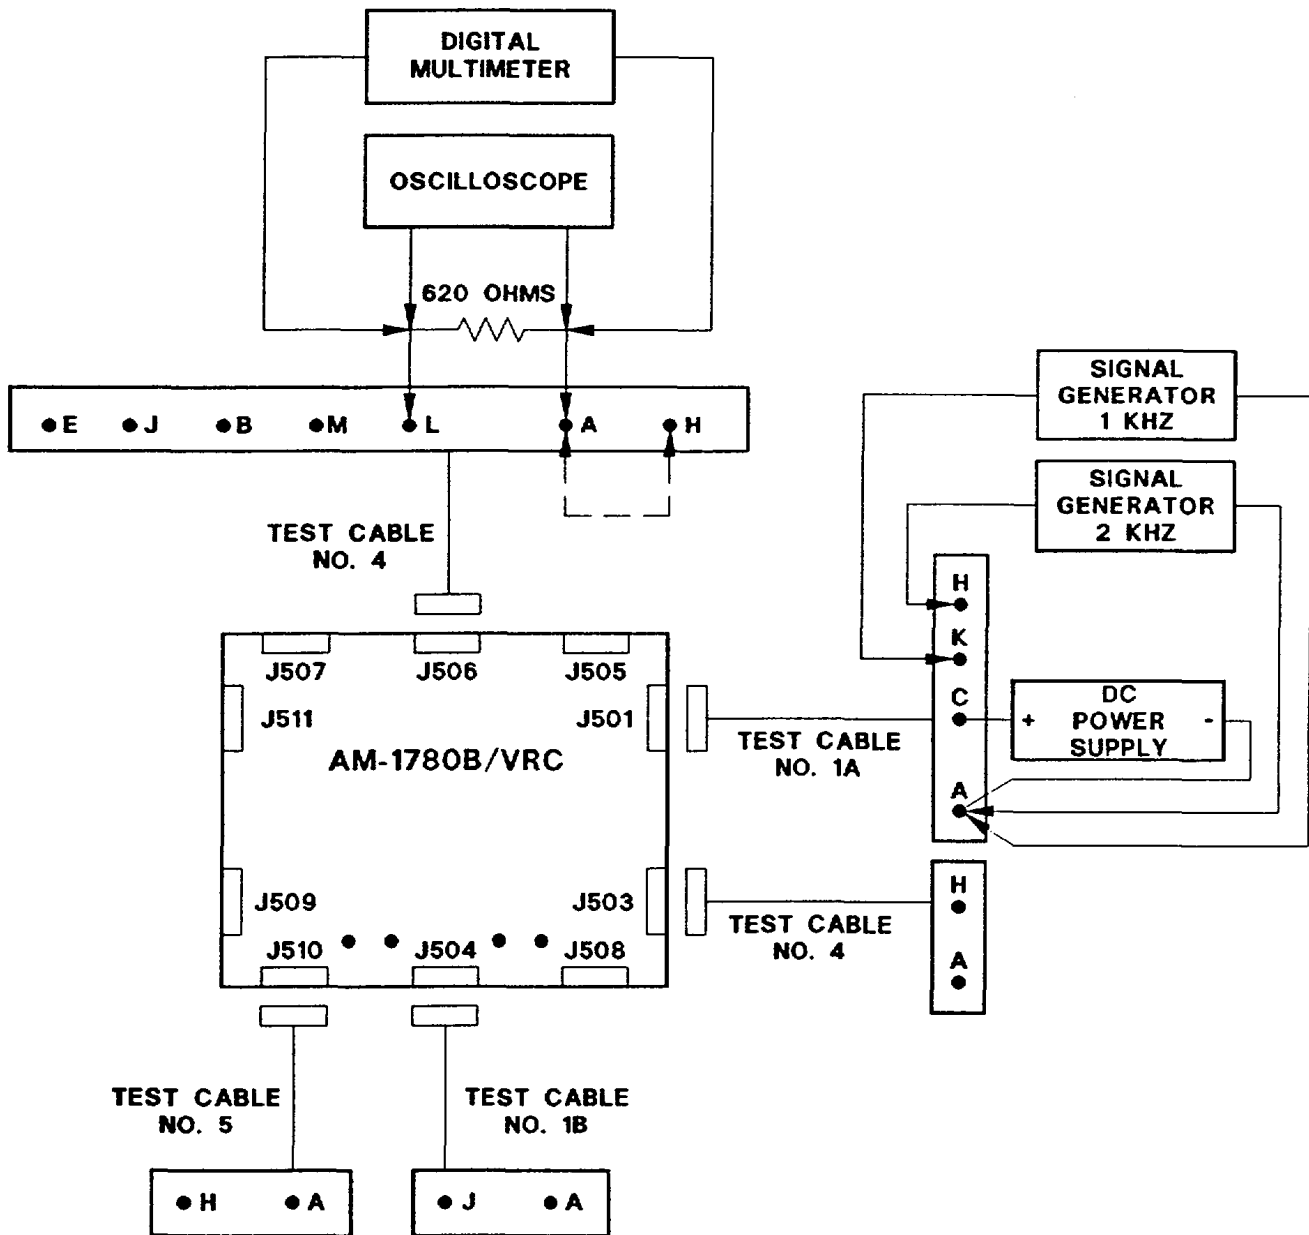

Figure 3-7. GS Test Setup F
- b. Connect a signal generator set at 1 kHz to J501-K (fig. 3-7).